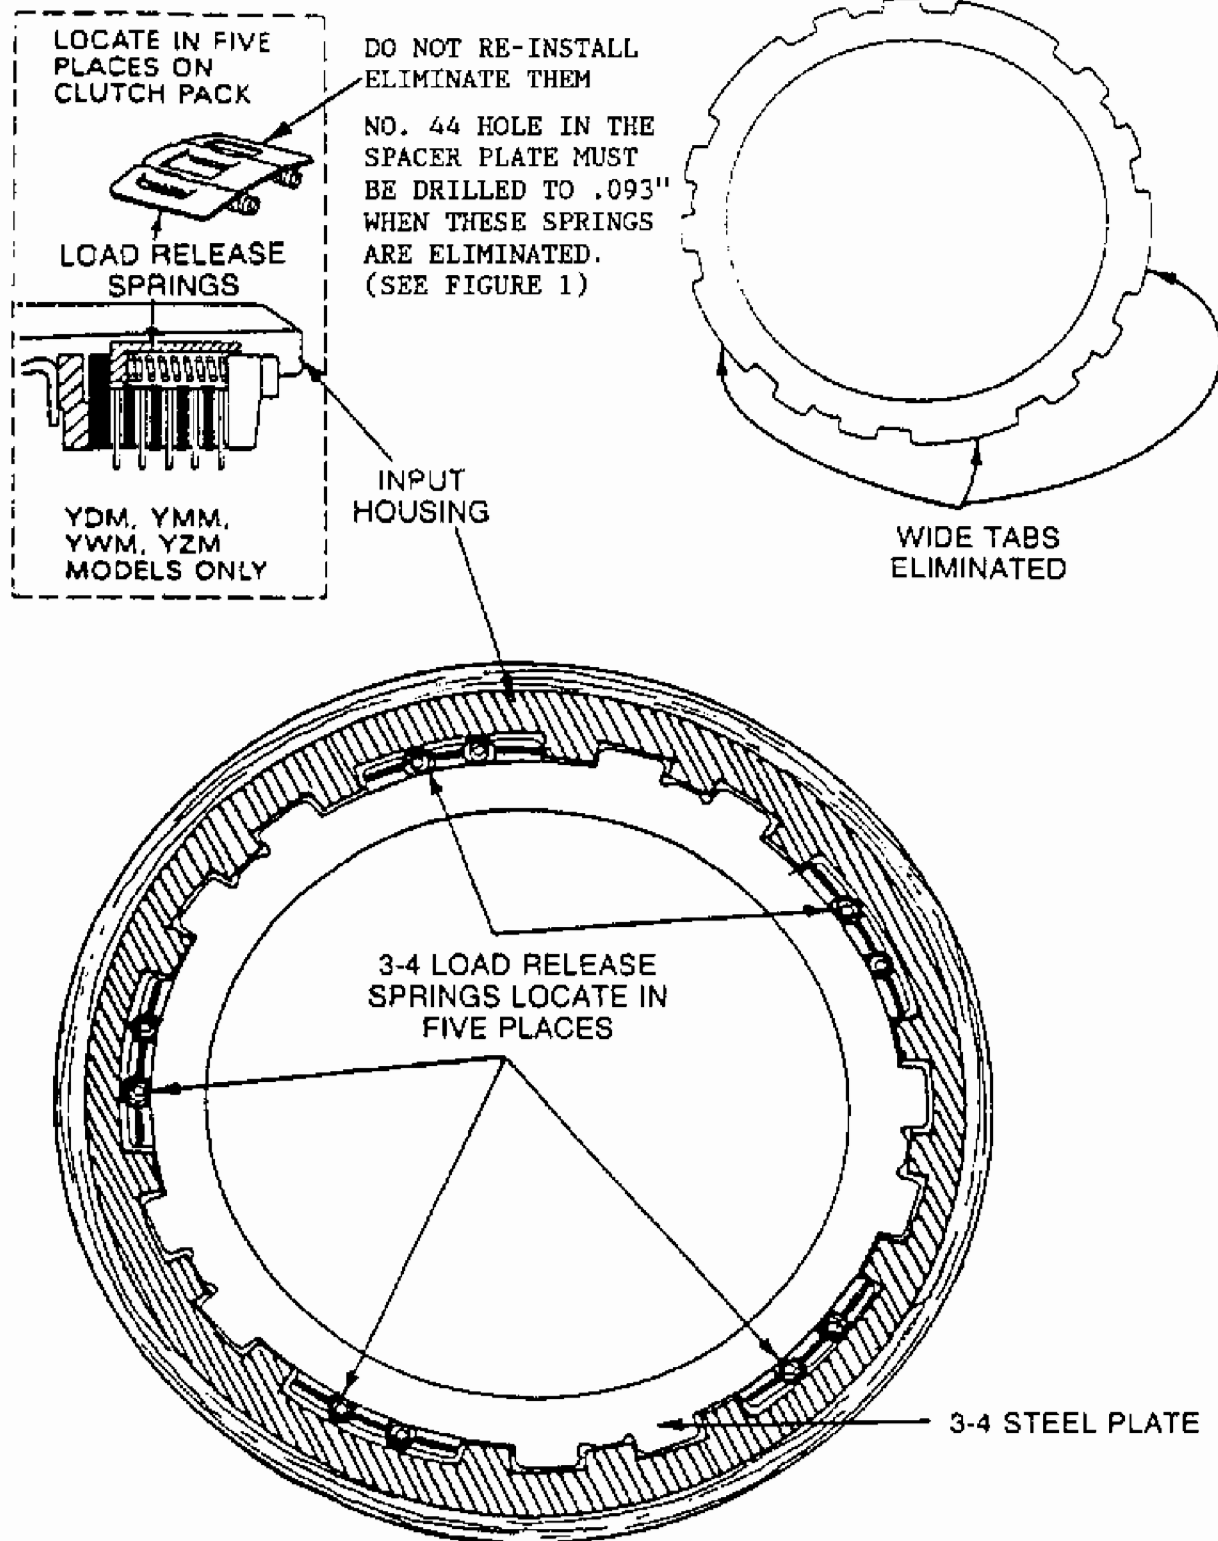

Figure 8
CHANGE: Load Release Springs are added to the 3-4 clutch pack on "F" and "Y" cars only (See Figure 8).
- (1) 3-4 Load Release Springs – Added on YDM, YMM, YWM, and YZM models only, and locates in five places around the 3-4 clutch pack (See Figure 8).
The 3-4 clutch pack now requires some special attention on the stack up. The wide tabs on the 3-4 steel plates were eliminated to make room for the load release springs (Figure 8). However, there is still "One" flat steel plate WITH the wide tabs required in the new 3-4 clutch pack. It goes on top of the stepped apply plate, and provides a "Seal" for the 3-4 load release springs (See Figure 8).